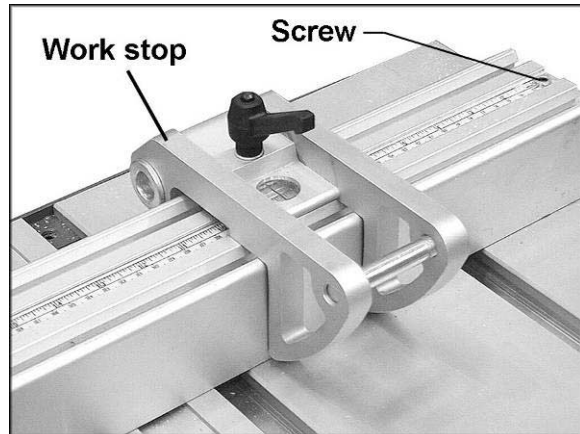

Figure 30
1. Put the work stop (Figure 30) at a certain measure and cut off a sample.
2. Measure the exact length of the sample. Loosen the screw (Figure 30) which holds the scale and move the scale until the measurement corresponds to the length of the previously cut sample. The main part of the fence is now calibrated to the saw blade.